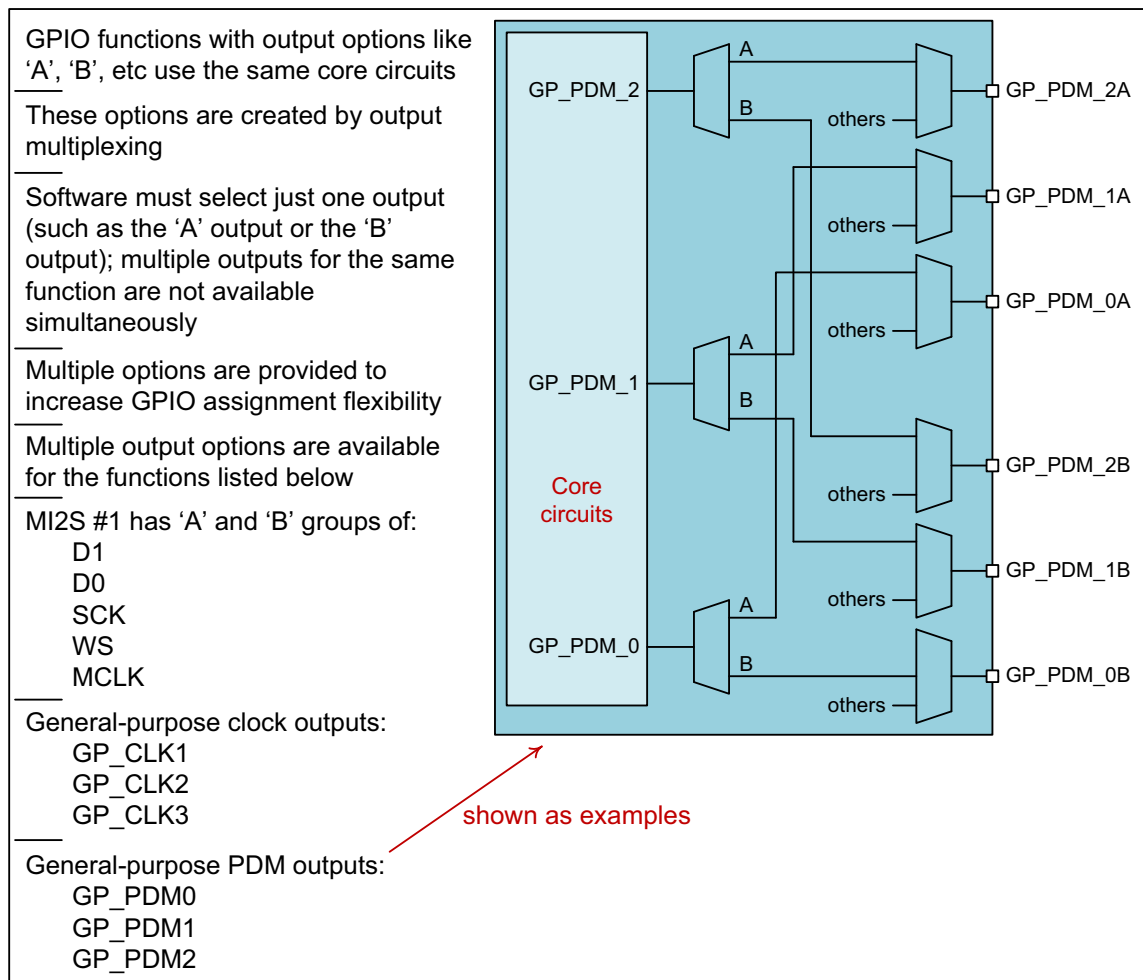

Figure 2-3 GPIO 'A/B' multiplexing
1. GPIO 'A/B' multiplexing is explained in Figure 2-3.